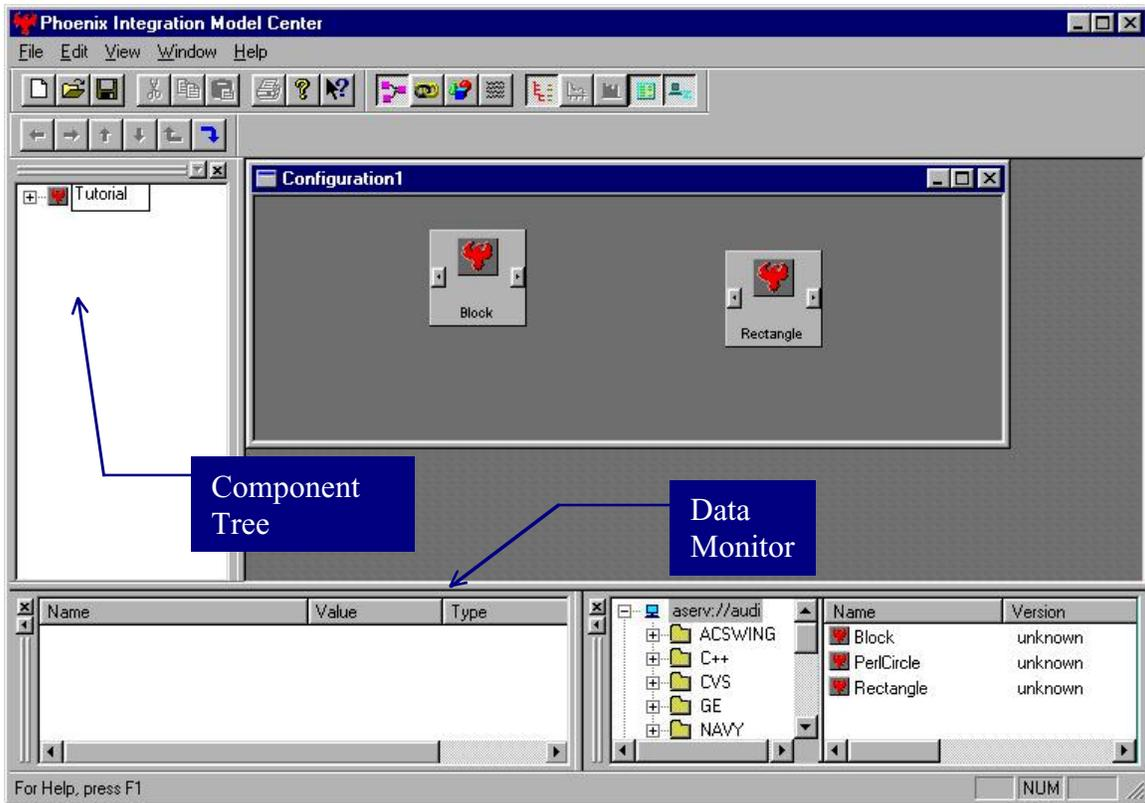

Figure 10. ModelCenter with two components in the configuration window
- Next, select **Block** from the **Server Browser** and drag it to the **Configuration Window**. When prompted, accept the dialog box defaults and press **OK**. Your screen should look similar to the one below in Fig. 10.